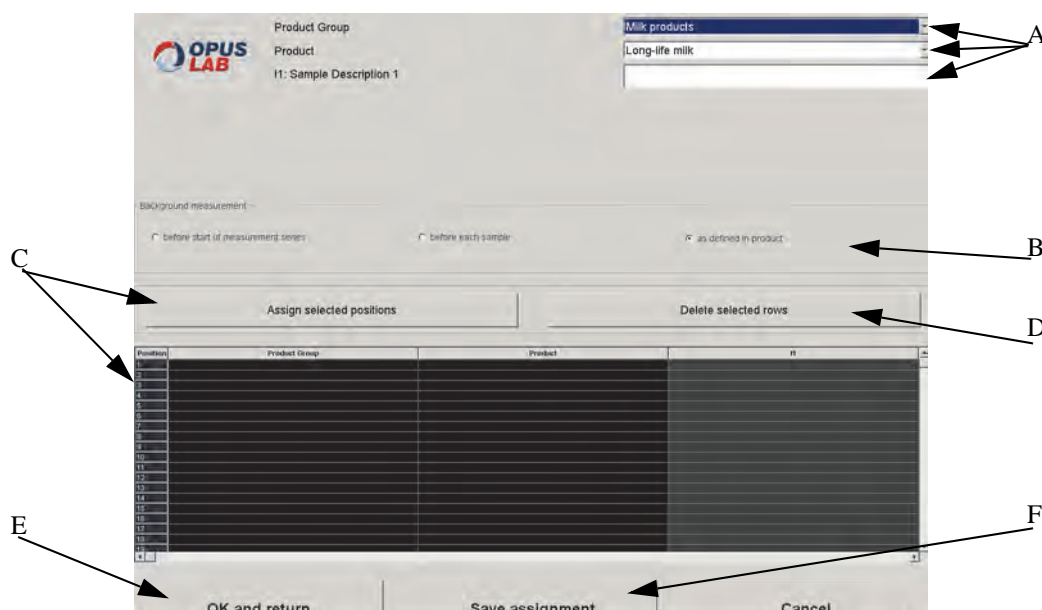

Figure 68: Sample changer - Assignment table
- B) The group field is only displayed if you have OPUS LAB administrator rights. You can select between three different options. If you have defined a validity period for the background measurement (*Product Setup*, chapter 3.2) and activated the respective option button (figure 68), it is checked whether all background measurements to be used are still valid. If they are not valid any more, a new background measurement starts for the respective positions.